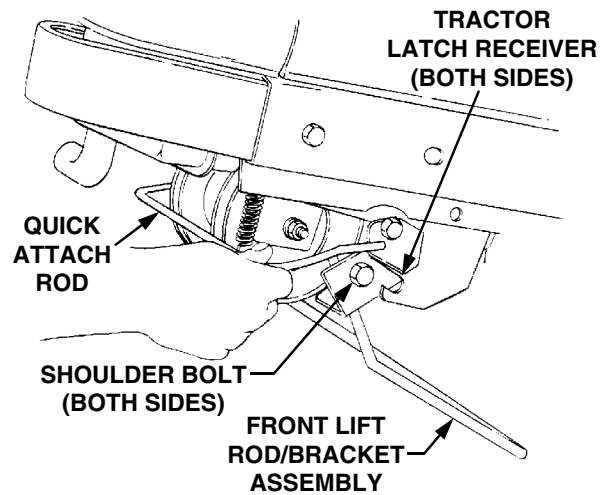

Figure 54
- From the front of the tractor, push downward and hold the tractor quick-attach rod. Pull the front lift rod/bracket assembly forward to release the shoulder bolts on each side of the bracket from the left and right tractor latch receivers. Release the tractor quick-attach rod (Refer to Figure 54).